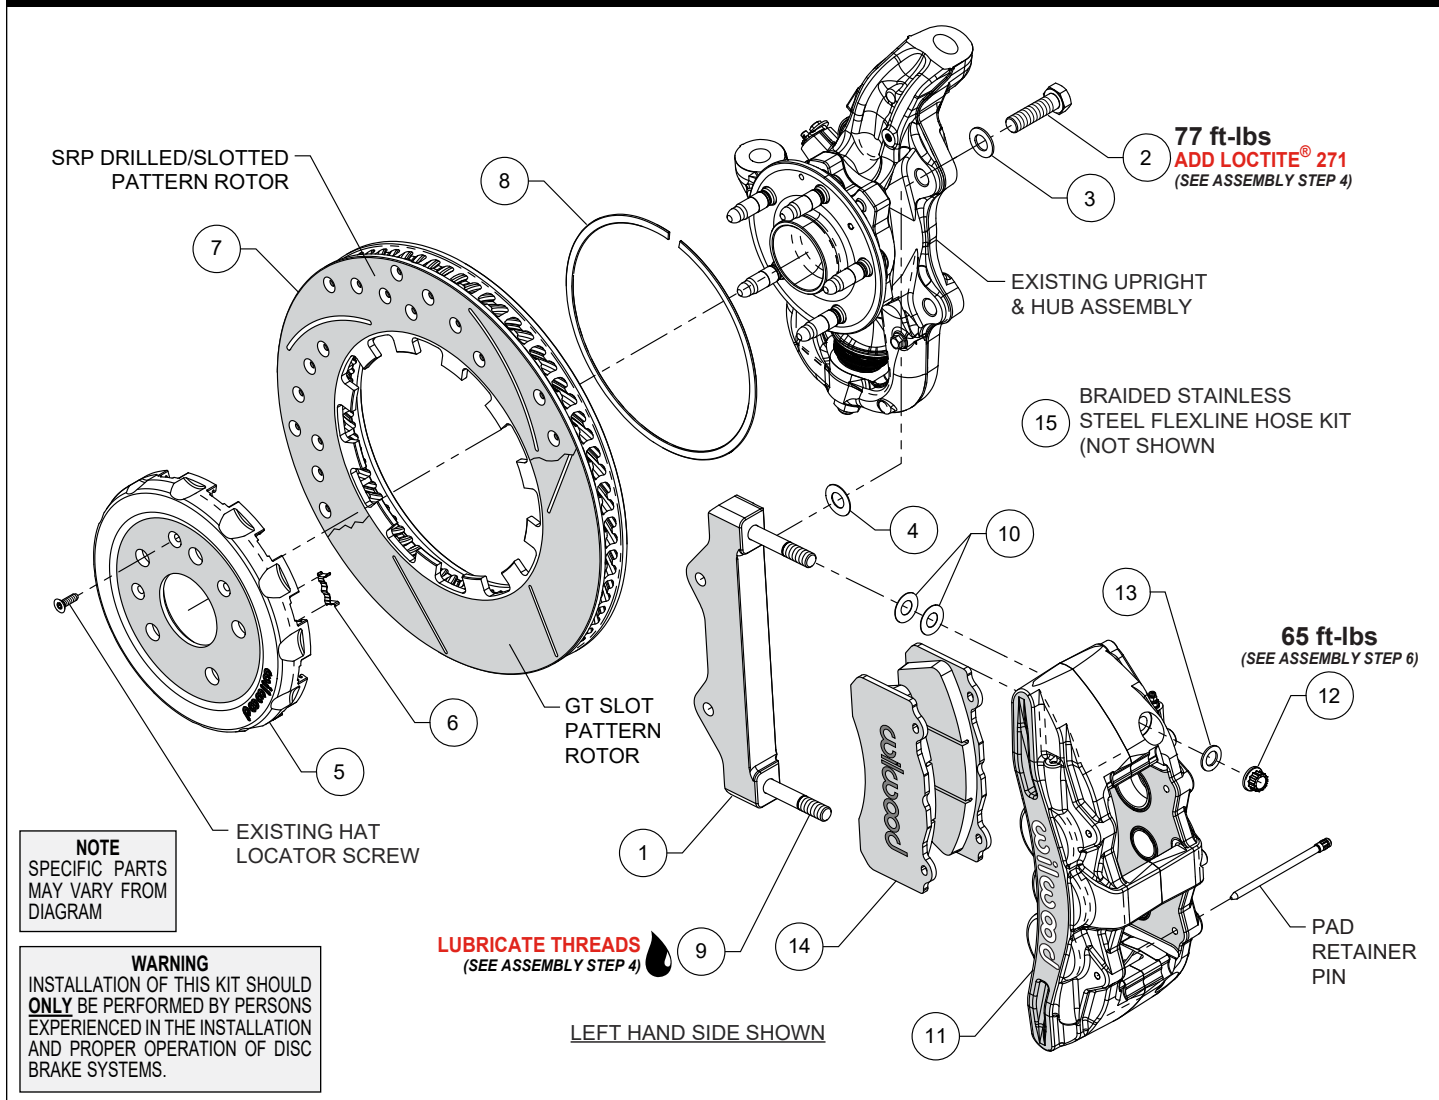

Figure 1. Typical Installation Configuration
NOTE: Numbers in parenthesis refer to the parts list and Figure 1 on the preceding pages.
STEP 1 The caliper mount bracket (1) should initially be installed with clean, dry threads on the mounting bolts. Orient the bracket, as shown in Figure 1 and Photo 1, and install using bolts (2) and washers (3). Initially place one .029" thick shim (4) on each bolt
between the bracket and upright, Figure 1. Temporarily tighten the mounting bolts. **NOTE:** The bracket must fit squarely against the mount bosses on the upright. Inspect for interference from casting irregularities, machining ridges, burrs, etc. Later, after the caliper alignment has been checked, the mount bolts will be secured using red Loctite® 271.
STEP 2 Insert the dynamic mount wear clips (6) into the slots in the hat (5), Photo 2 and 3. Orient the rotor (7) as shown in Figure 1 and Photo 4, with the flush side of mount lugs facing the hat. Secure the rotor to the hat using the snap ring (8) by simultaneously pushing down on the rotor and installing the ring into the groove in the hat, as shown in Photo 5. Carefully inspect snap ring to ensure complete engagement in the groove.
STEP 3 Slide the hat/rotor assembly onto the axle hub, Photo 6. **NOTE:** The hat must fit flush against the axle hub flange or excessive rotor run out may result. Install the hat locator screw (OEM), as shown in Figure 1, to keep the hat/rotor assembly in place while continuing with the installation.
STEP 4 NOTE: This kit contains distinct right and left hand calipers that must be mounted in a specific direction, as described below. Lubricate the caliper mounting studs (9) with lightweight oil. Initially place two .015" thick shims (10) on each stud between the caliper and the bracket, as shown in Figure 1 and Photo 7. Mount the caliper (11) onto the bracket (1) using lock nuts (12) and washers (13), Figure 1. Temporarily tighten the lock nuts. Ensure that the caliper is mounted so the largest pistons are at the rotor exit end of the caliper, in relation to the forward direction of the rotor. View the rotor through the top opening of the caliper.
The rotor should be centered in the caliper, Photo 8. If not, adjust by adding or subtracting shims (4) between the bracket and the upright. Always use the same amount of shims on each of the two mounting bolts. Once the caliper alignment is correct, remove the bracket mounting bolts (2) one at a time, apply red *Loctite*® 271 to the threads, and torque to value shown in Figure 1.
STEP 5 Remove the caliper (11) from the bracket (1), then remove the two pad retaining pins from the caliper. Insert the brake pads (14) into the caliper from the bottom side, with the friction material facing the rotor, as shown in Photo 9. Secure the brake pads in place
with the pad retaining pins, Figure 1 and Photo 10. **CAUTION:** *Ensure pad retaining pins are completely engaged into caliper.* It is recommended to use a small flat punch and hammer to tap the pins in until they are fully seated.
STEP 6 Reinstall the caliper onto the caliper mounting bracket and temporarily tighten the lock nuts (12). Check that the top of the brake pad is flush with the outside diameter of the rotor, Photo 11. If not, adjust by adding or subtracting shims (10) between the caliper and the bracket. After the caliper pad height is set, torque the caliper lock nuts (12) to value shown in Figure 1.
STEP 8 Attach supplied brake line to caliper. **NOTE:** *OEM rubber brake hoses generally cannot be adapted to Wilwood calipers.* Install Wilwood's stainless steel braided flexline hose kit (15), P/N 220-17008 included with this kit, Photo 12. The caliper inlet fitting is a 1/8-27 NPT. Use the included steel adapter fitting at the caliper (use PTFE tape on the pipe threads of adapter fitting for proper sealing to caliper). **Ensure hoses are routed to prevent contact with moving suspension, brake or wheel components.**